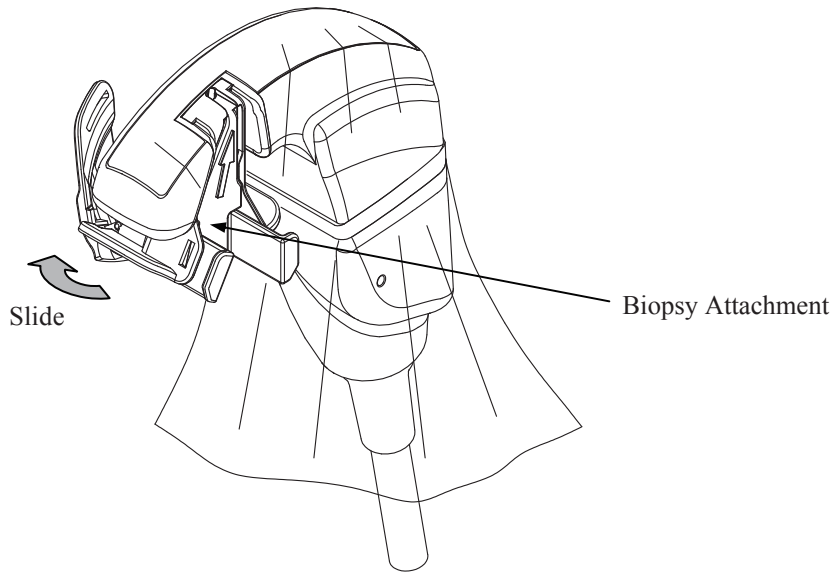

Figure 10 Fixing Biopsy Attachment
- (6) Fix the biopsy attachment to the biopsy attachment mounting plate by pushing it towards the direction shown in Figure 10.